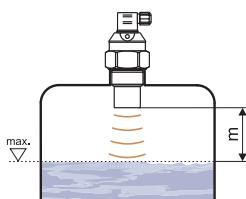

Fig. 2: Level meter dead zone
- In compliance with the measurement principle, no signals reflected in the area directly below the level meter (the so-called dead zone) can be evaluated. The dead zone (Fig. 2) determines the **minimum distance** possible between the level meter and the highest surface level. Medium minimum distance parameters are listed in chapter on „Technical specifications“.